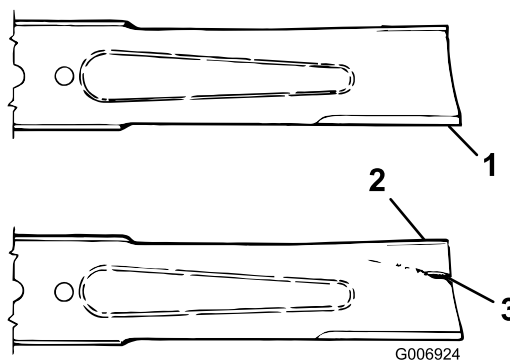

Figure 77
3. Examine the cutting ends of the blade carefully, especially where the flat and curved parts of the blade meet (Figure 77).
4. If wear is noticed (Figure 77), replace the blade; refer to Inspecting the Blade Plane \(page 70\).
If the blade is allowed to wear, a slot will form between the sail and flat part of the blade (Figure 77). Eventually a piece of the blade may break off and be thrown from under the housing, possibly resulting in serious injury to yourself or bystanders.